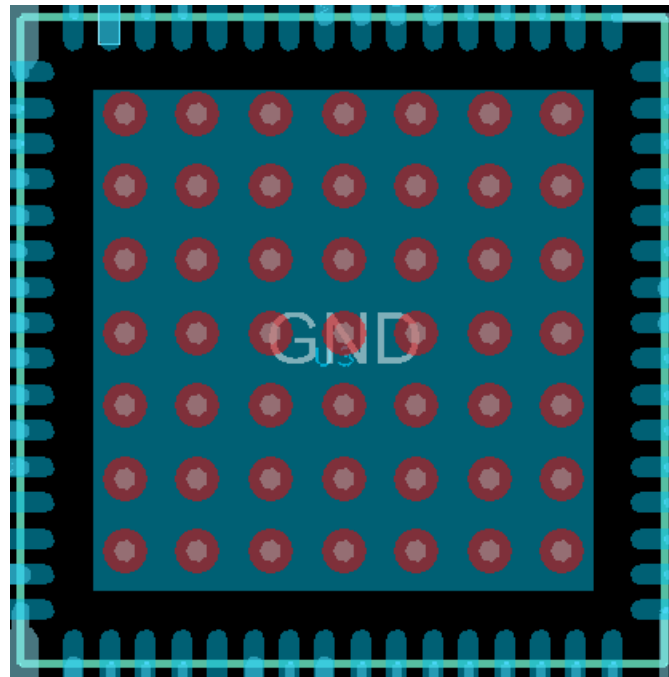

Figure 11. 7x7 Ground Vias on Ground Pad
1. Ensure 7x7 ground vias are placed on the ground pad for optimal thermal dissipation (see Figure 11). The via drill size can be between 8 mils to 12 mils.